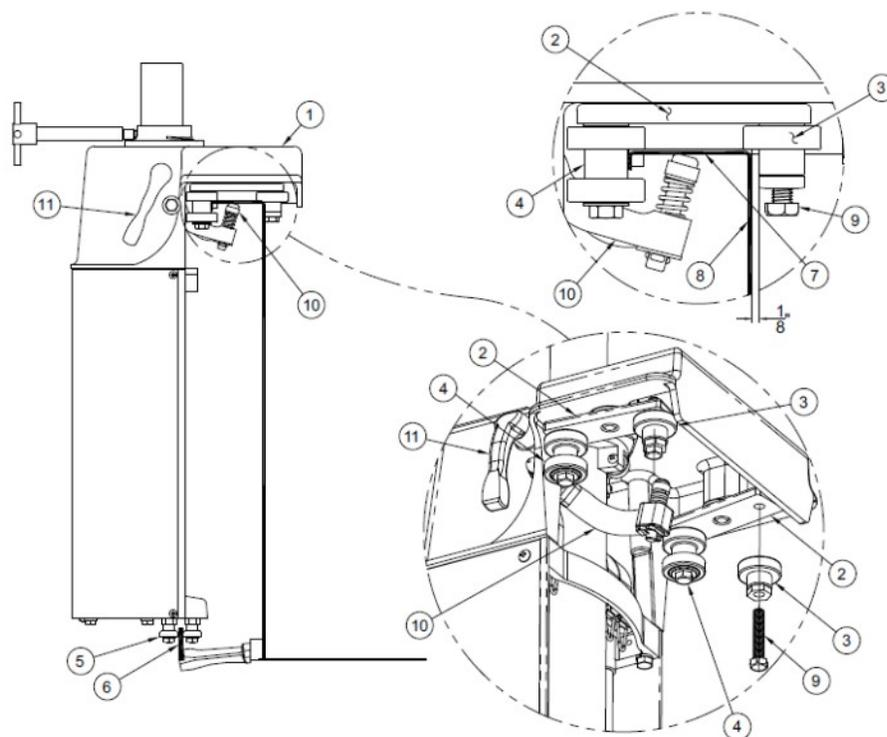
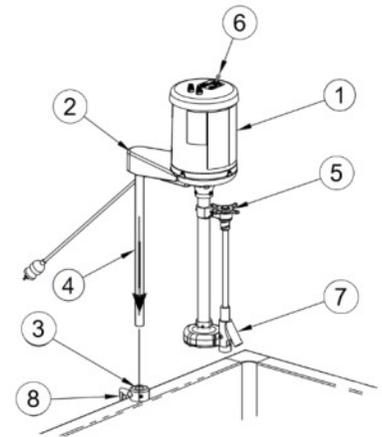

Figure 5: Installing Carriage Assemblies (WHF-270/300/425-S only)
Figure 6: Installing turbine on WHF-260-S
For WHF-260-S (Figure 6)
3. WHF-270/300/425-S only (Figure 5): To change the lateral position of the turbine:
- a. With both hands on the carriage assembly, turn handle clockwise (11) to unlock carriage assembly from tub and slowly push the carriage assembly to the desired location.
- b. Lock the lateral position of the carriage assembly by turning handle counterclockwise (11).
- a. WHF-260-S (Figure 6):
- i. Loosen handle (8) to unlock turbine.
- ii. Slowly push down on the top of the motor support casting (2) until the bottom of the turbine is at the desired location.
- iii. Tighten handle (8) to lock in place.
WARNING: Keep your hands on the motor support casting (2) during this operation. Movement of the lifting mechanism in the carriage assembly (see Figure 5) could cause injury.
Refer to Figure 5 and Figure 6 for the remaining steps:
Refer to Figure 6 and Figure 7.